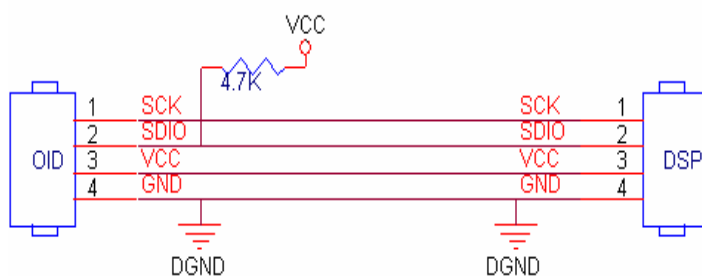

Fig.1 4-Wire Cable between OID and DSP
- OID decoder (SN9P701-00X) communicates with DSP/MCU by a 4-wire cable, Fig.1 . SDIO in 4-wire cable is pulled high by an external pull-up resistor.